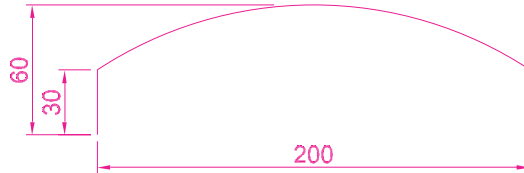

Fig. 17.28 Example – **Edgesurf** –
3. Construct the polyline to the sizes and shape as shown in Fig. 17.28.